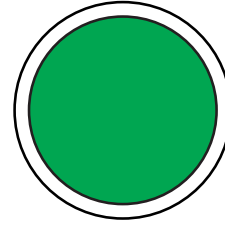

Figure 9. Circuit Breaker ON Button (ON/GREEN)
- Press the **Circuit Breaker ON button** (Figure 9). The button LED will turn **ON (green)** and power will be supplied to the output terminals, cam-locks, and receptacles.
3. The main circuit breaker will automatically turn **ON** after the engine starts. Observe that the LED on the **Circuit Breaker ON button** has turned **ON (green)**. See Figure 9.